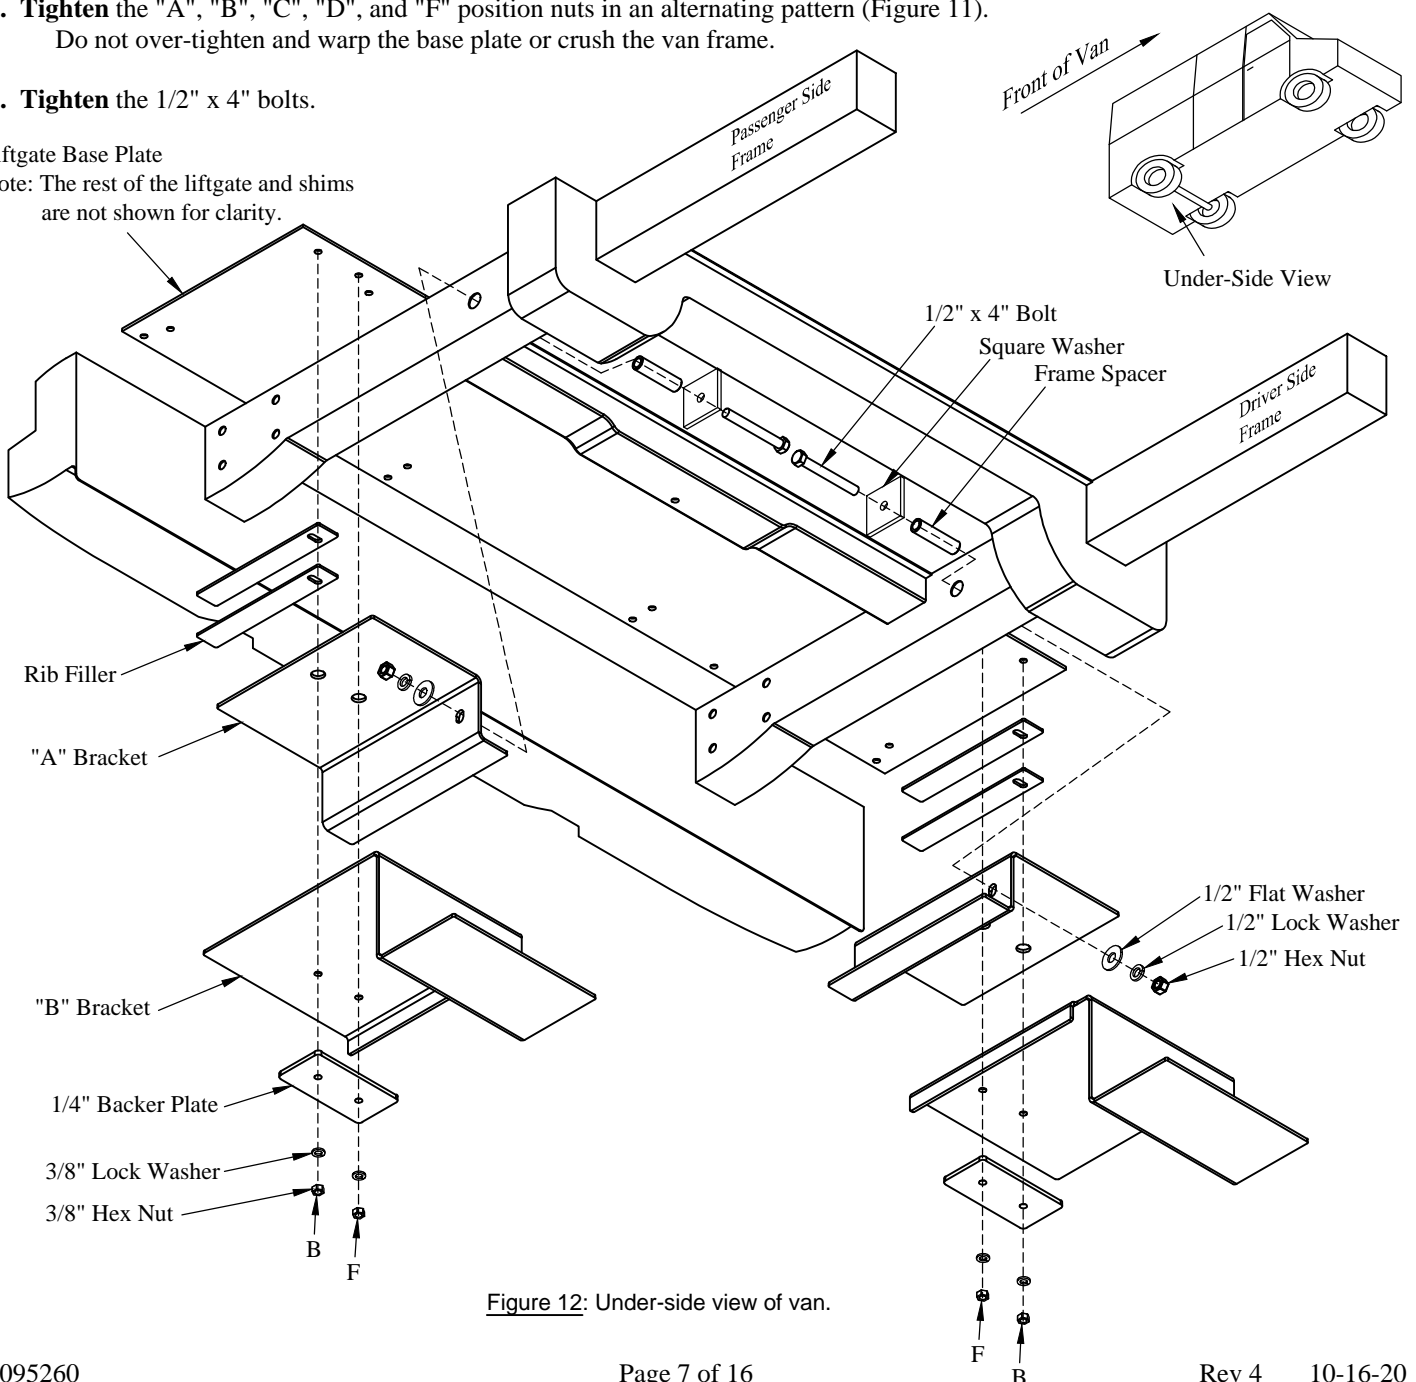

Figure 12: Under-side view of van.
7. **Insert** two (2) rib fillers on each "B" location bolt (Figure 12). These parts fill in the underside of a rib.
8. **Install** an "A" bracket onto the "B" and "F" location bolts (Figure 12). Be aware that there is a left and right of these brackets.
9. **Install** a "B" bracket onto the "B" and "F" location bolts (Figure 12). Be aware that there is a left and right of these brackets.
10. **Install** a 1/4" backer plate onto the "B" and "F" location bolts (Figure 12).
11. **Secure** the mounting brackets with 3/8" lock washers and hex nuts (Figure 12). Do not tighten at this time.
12. **Insert** two (2) 1/2" x 4" bolts into a square washer and frame spacer (Figure 12).